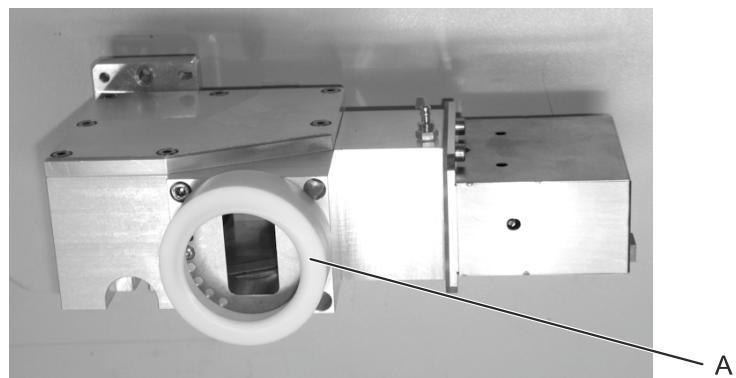

Figure 121: Energy monitor with beam exit bellows
2. Place the energy monitor beam exit side up (see Figure 121).
3. Remove the beam exit bellows (see Figure 121, A).
13. Refit the plastic bellows (see Figure 121, A).